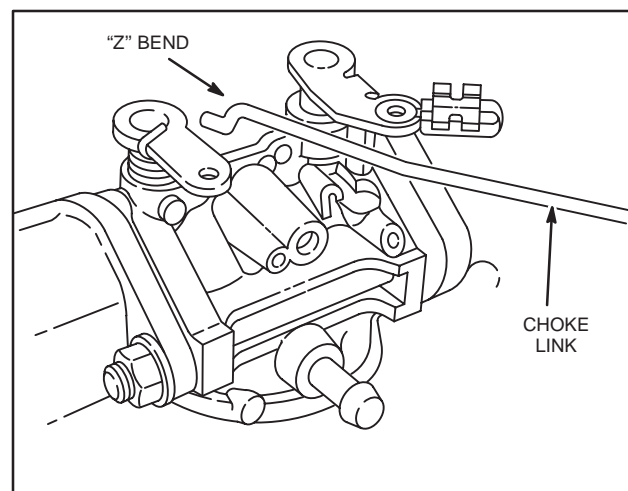

Fig. 3 – Removing Choke Link – Early Style
Note: Early style choke links were manufactured with a "Z" bend, Fig. 3. To remove choke link the governor control bracket must be removed. Proceed to Steps 2 and 3.
3. Remove choke link from choke lever, Fig. 3.